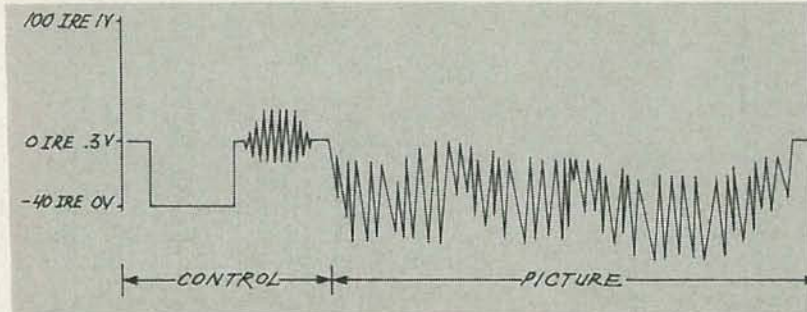

FIG. 3—HERE'S WHAT NORMAL SYNC and suppressed video look like.
- Normal sync and suppressed horizontal sync (Fig. 3).